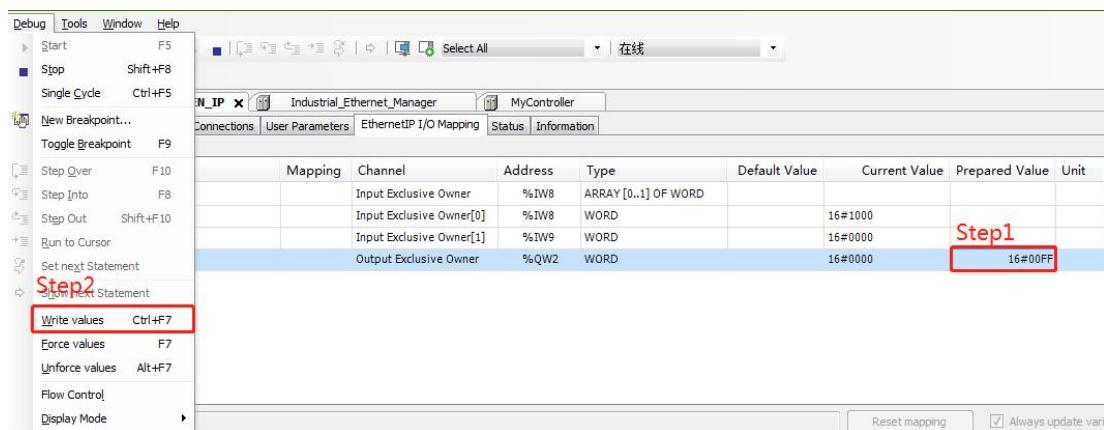

Figure 5-3-23
- Output Exclusive Owner The channel represents the DF20-M-16DO-P module. As shown in Figure 5-3-23, write the output value according to the requirements. After entering the value, you need to click "Write values" to change the current value.